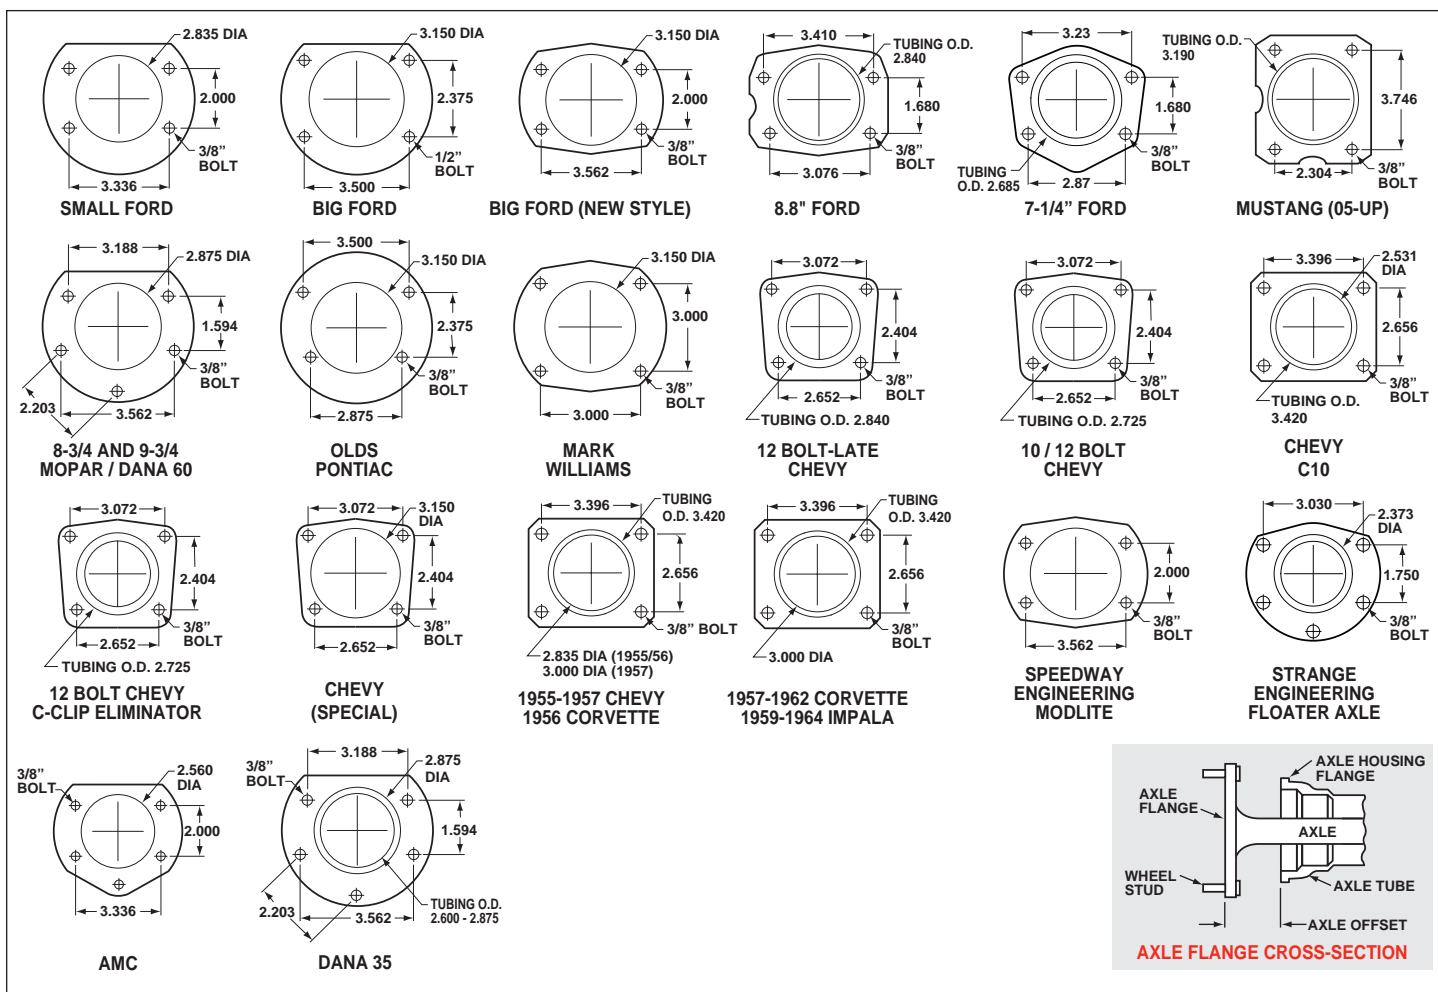

Figure 5. Rear Housing Flange Chart and Axle Flange / Offset Cross-Section
• Make sure this is the correct kit to fit the axle housing flange, not necessarily the rear end make. Many times aftermarket manufacturers put a different make of axle housing flange on the stock rear end housing (Figure 5). Example; Big Ford rear ends with Olds-Pontiac flanges, therefore, an Olds-Pontiac rear disc brake kit would be the correct kit to order. Also, shock clearance may be a problem. They may have to be modified and/or relocated to clear the Wilwood kit after final assembly.
- Dimension from wheel side of axle flange to wheel side of axle housing flange (see Figure 5, lower right hand corner). This dimension is critical to ensure proper alignment of the rotor to the caliper, and should match offset given in the kit description.